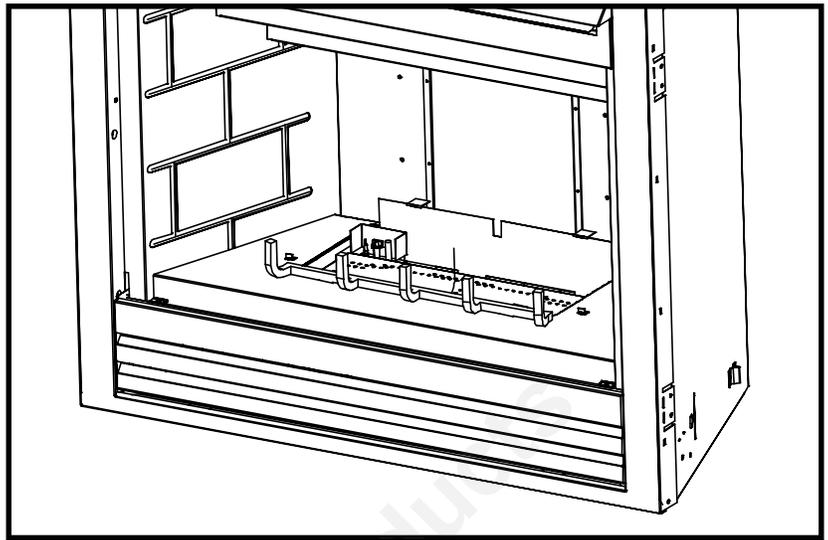

Figure 37
- Position the grate into the cutout in the refractory. Hook the grate into position using the tabs on the bottom of the grate. Make sure the grate is pulled forward on the refractory (see Figure 37).